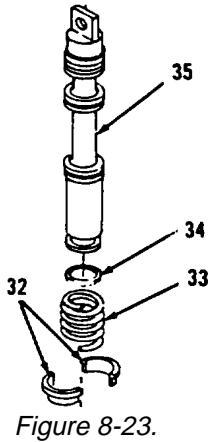
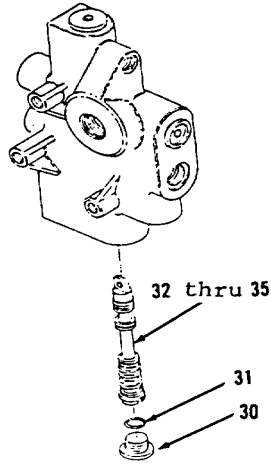

Figure 8-23.
Figure 8-22.
- 10. Install washer (34) and spring (33) on stem (35, Figure 8-23).
- 11. Compress spring (33).
- 12. Install two retainers (32).
- 13. Install items 35 thru 32 as an assembly, new preformed packing (31) and plug (30, Figure 8-22).